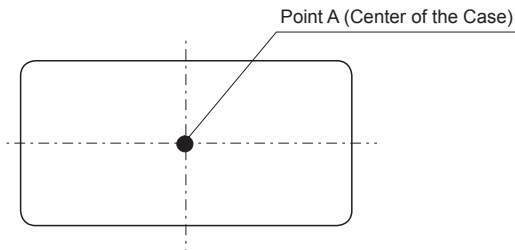

Fig.7.4 Temperature Measuring Point on the case (Top View)
■ Please have sufficient ventilation to keep the temperature of point A in Fig.7.4 at Fig.7.5 or below.